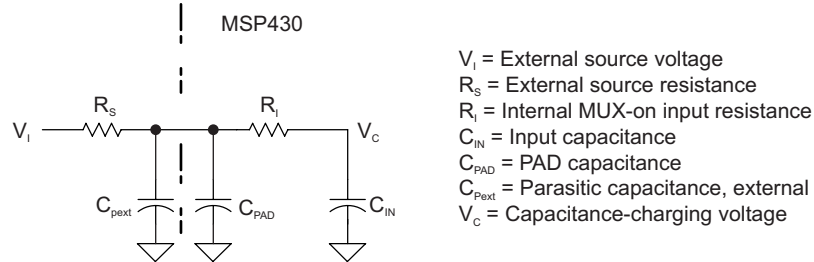

Figure 5-15. eCOMP Input Circuit
(1) For the eCOMP C_{IN} model, see Figure 5-15.
(2) This is measured over the input offset.